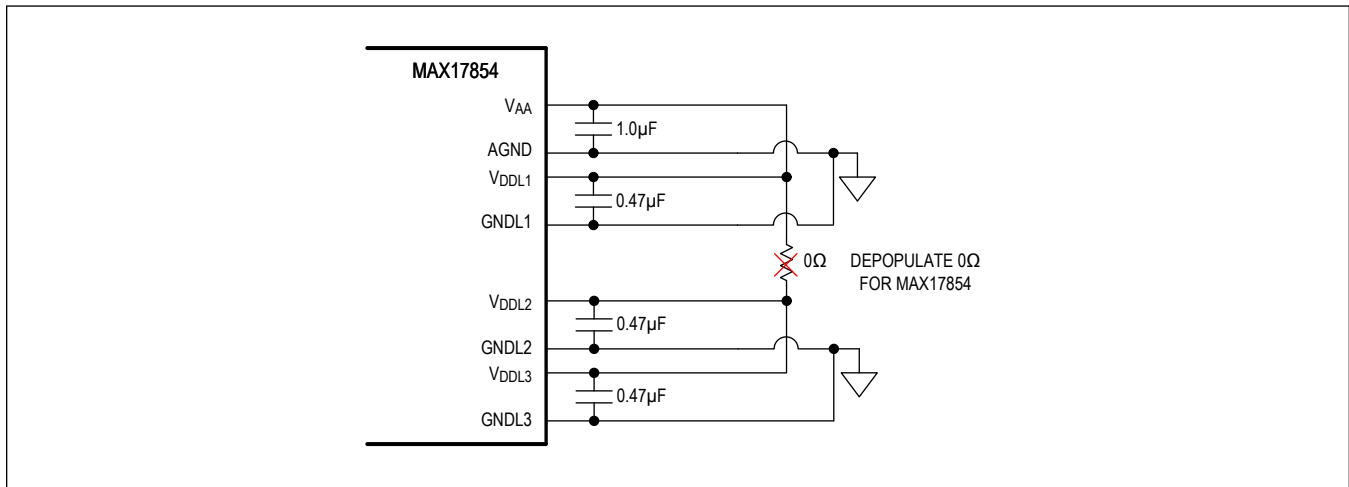

Figure 114. MAX17853 to MAX17854 Hardware Change
While migrating the solution from the MAX17853 to MAX17854, one hardware change is required. On the MAX17853 evaluation (EV) kit, the VAA output is tied to VDDL2 and VDDL3 through an external resistor. Since the MAX17854 has two regulators, this connection needs to be removed, hence the external resistor needs to be depopulated on EV kit to make the hardware to be used for the MAX17854, as shown in the Figure 114. A similar change to this effect would be required for any user-defined hardware.